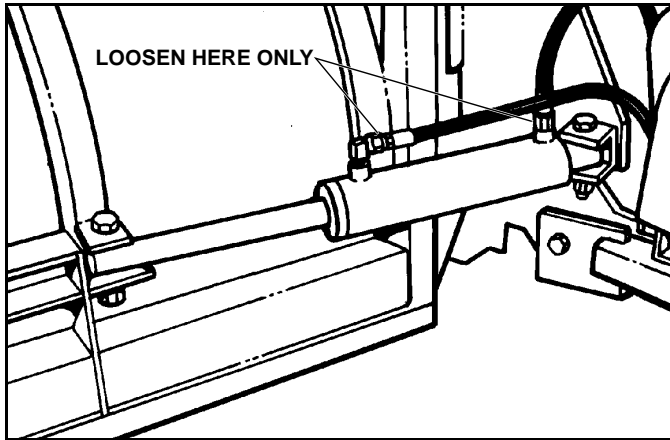

Figure 2-4
*NOTE: Do not loosen fitting in cylinder body. Loosen only at connection with hose.(See Figure 2-4)*